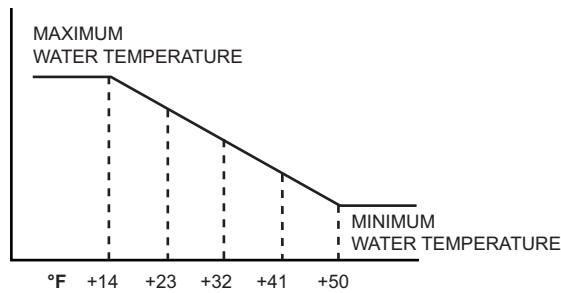

Fig. 5
- 8.6 On the electronic aquastat (marked "WATER TEMPERATURE"), select the **maximum** water temperature required (**1-10**) by the type of installation. Please see Table 6 below for the temperature obtained according to the knob position. The **minimum** water temperature is reset automatically by the outdoor sensor. Please see the variation graph in Fig 5.